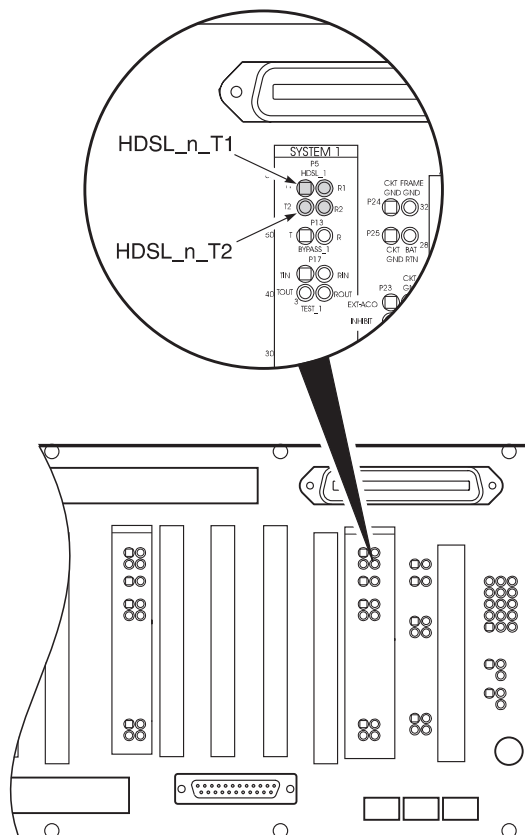

Figure 6. Connecting the HDSL Lines
8.3 HDSL Lines. Connect the HDSL lines (Figure 6). Note that *n* is: